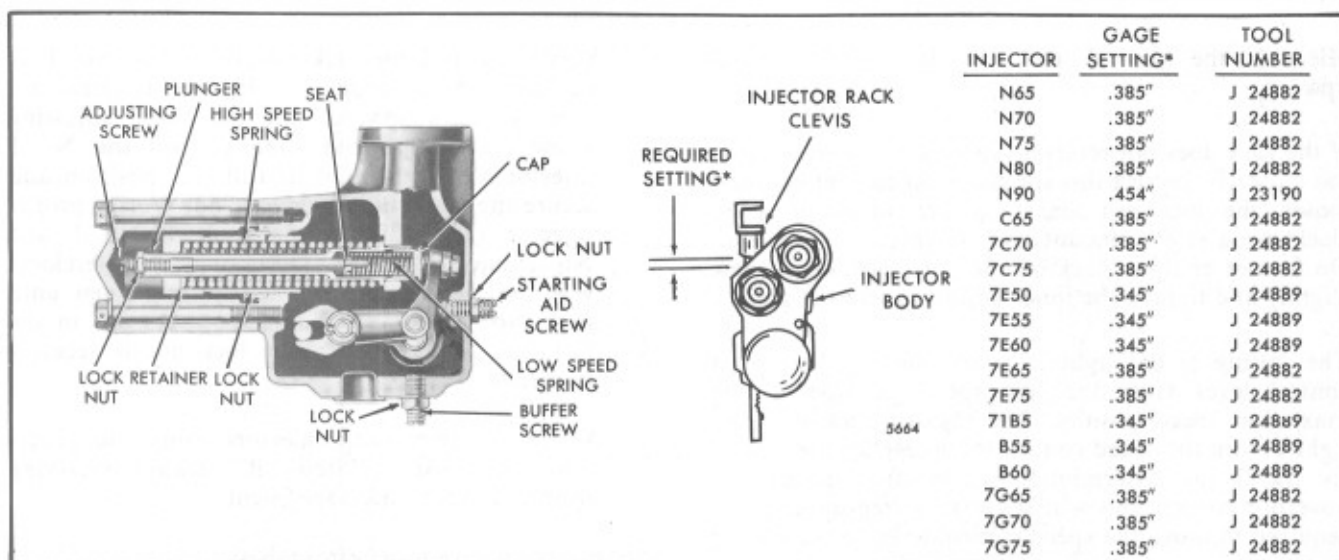

Fig. 6 - Adjusting Starting Aid Screw (Current Turbocharged Engines)
b. Adjust the starting aid screw to obtain the required setting between the shoulder on the injector rack clevis and the injector body (Fig. 6). Select the proper gage and measure the setting at any convenient cylinder. When the starting aid screw is properly adjusted, the gage should have a small clearance of 1/64" (.397 mm) in the space along the injector rack shaft between the rack clevis and the injector body.